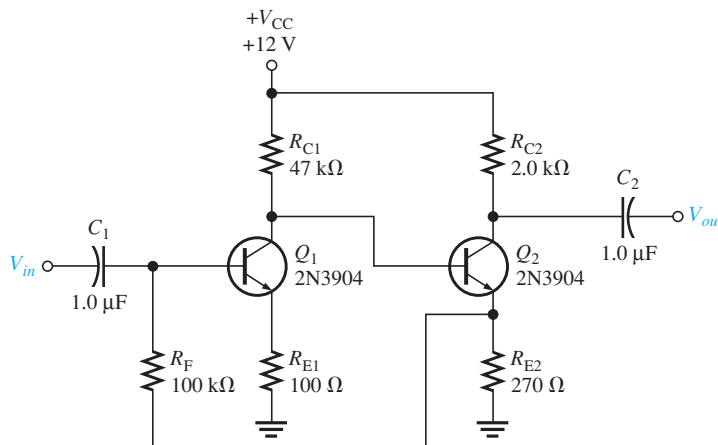

FIGURE 5-19(a)
- For the circuit in Figure 5-19(a), find the dc parameters, $I_{C(Q1)}$, $V_{C(Q1)}$, $I_{E(Q2)}$, and $V_{C(Q2)}$ if the β of each transistor is 200.